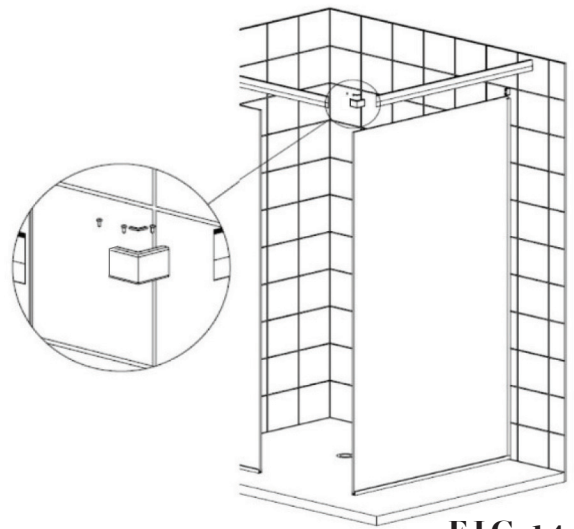

FIG 14.
- With corner showers, use the grey corner block in the mitred corner (FIG 14) to support the join. This should press into the mitred corner, and be a tight snug fit.